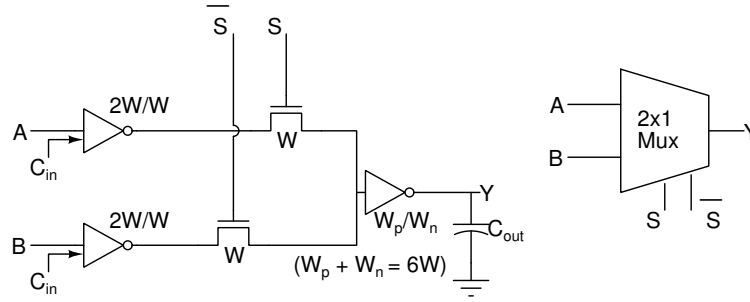

Figure 1
1. Size the pass transistor logic based multiplexor shown in Fig. 1 such that the average delay from input (A or B) to output (Y) is minimized. It is given that the electrical effort (C_{out}/C_{in}) for each path (input to output) is 2. Length of each transistor in the circuit is same ($L=0.18 \mu m$). Widths shown in the figure represents the ratio of PMOS and NMOS devices. There is a constraint for the output inverter that the total width $W_p + W_n = 6W$. Use NGSPICE simulations by including parasitic capacitances of the devices to find the sizes to minimize the delay. For your final design, show the functionality of the multiplexor with appropriate waveforms and report the delay of your circuit.